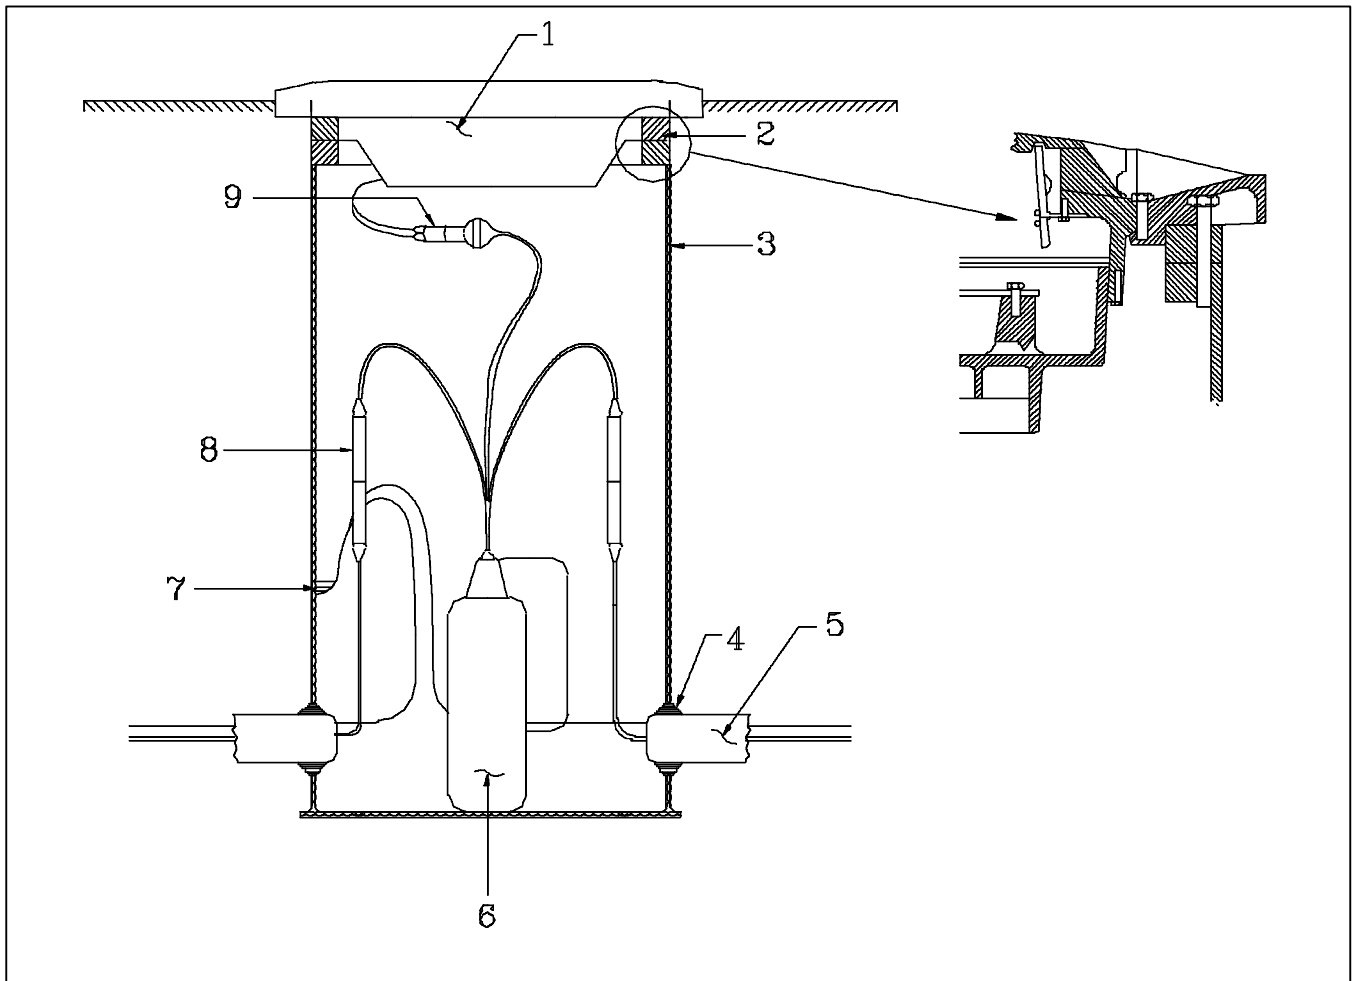

Figure 7. L-850E Base Mounting (with Adapter Ring)
1. See Figure 7. Clean the base receptacle. Make sure the base receptacle does not contain water and is completely clean and dry. The mating surfaces must be clean and free of foreign particles.